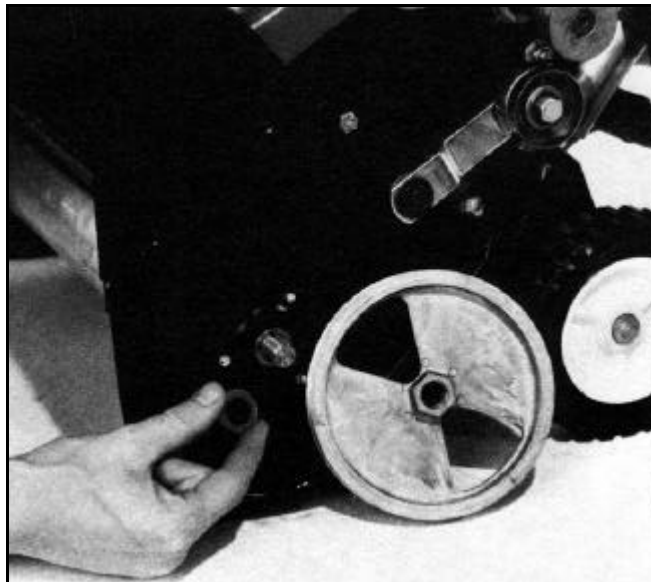

Figure 71
3. Before replacing with a new rotor pulley, be certain to place the thin washer over the shaft first (Figure 71). If not, it will be very difficult to remove in the future and binding between the rotor and side plates may occur.